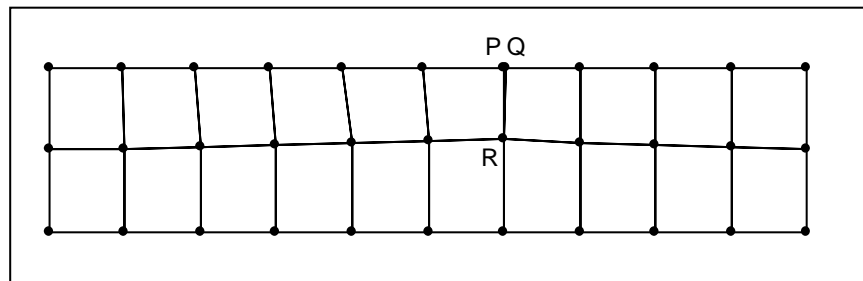

Figure 16.5 Mesh of Quadrilateral Elements.
The mesh should now appear as shown in Figure 16.5.
2. Drag a box which just encloses the nodes P, Q, and R shown in Figure 16.5.